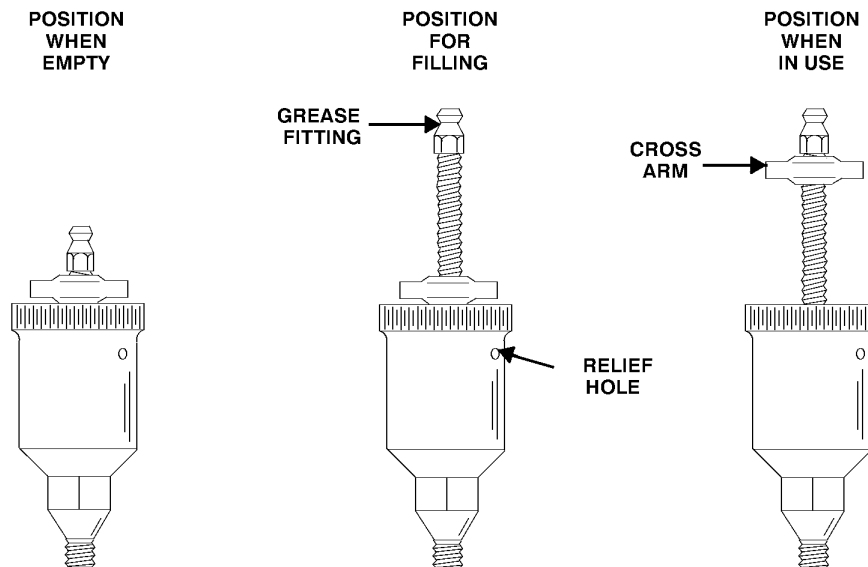

Figure 6. Automatic Lubricating Grease Cup
Fill the grease cup (11) through the grease fitting with No. 2 lithium base grease until grease escapes from the relief hole. Turn the grease cup arm counterclockwise until it is at the top of the stem; this will release the spring to apply grease to the seal (see Figure 6).